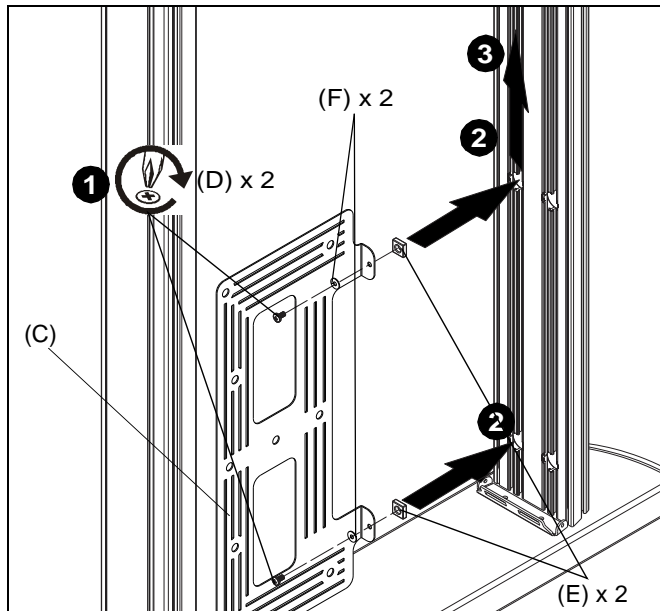

Figure 13
1. Loosely install two #10-24 x 3/8" Phillips head machine screws (D) through two #10 washers (F), holes in component bracket (C) and into two #10-24 square nuts (E). (See Figure 13)
2. Insert two #10-24 square nuts (E) into two openings on column channel. (See Figure 13)
3. Lift component bracket (C) to desired mounting position. (See Figure 13)
4. Tighten screws to a torque force of 10 ft-lbs. (See Figure 13)